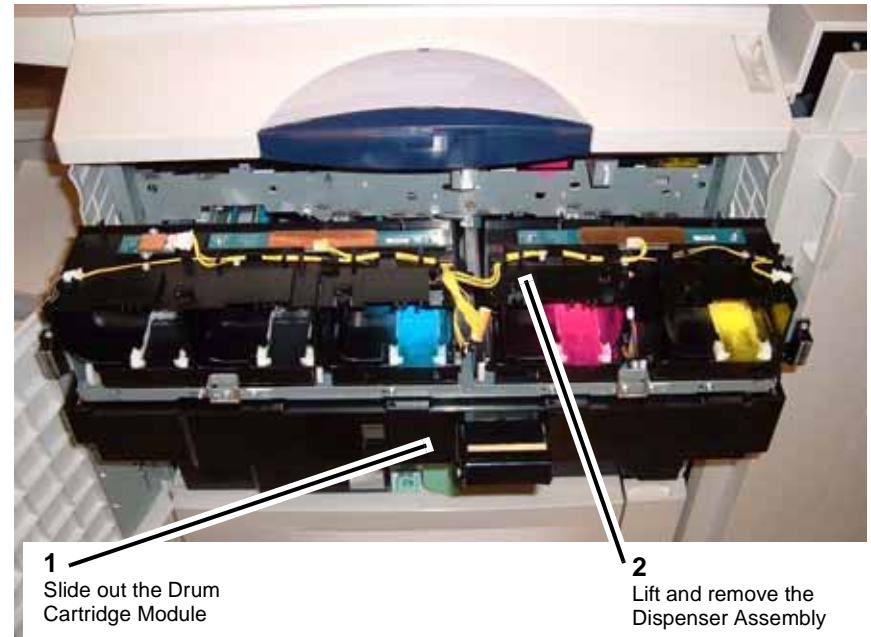

Figure 8 Removing the Dispenser Assembly
9. Remove the Dispenser Assembly (Figure 8).